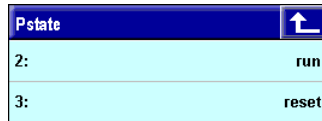

Fig. 81: Select "run" status
2. **Select "reset" status:** Select "reset" status (see Fig. 81).